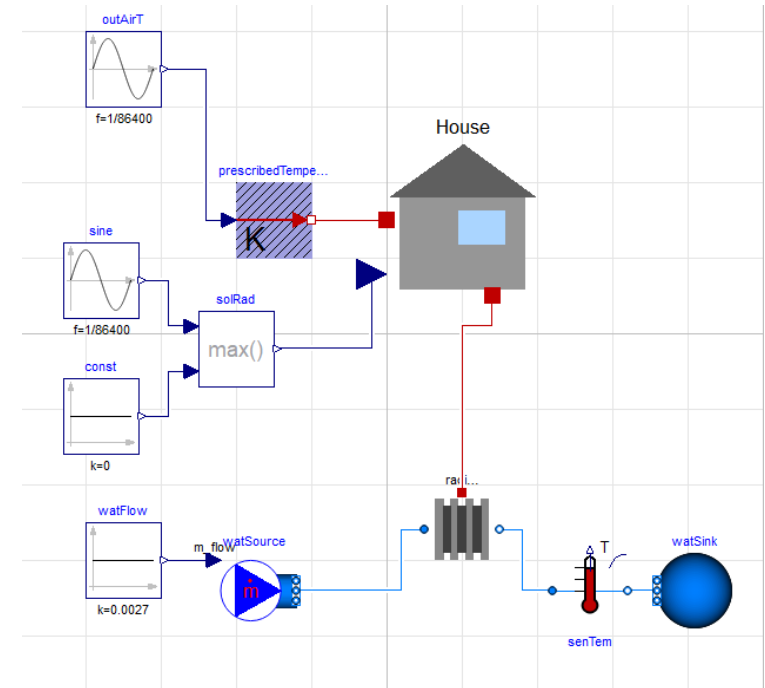

Figure 7.4: Connections in **Experiment3**
- SimpleHouse.Components.Radiator (1)
- Modelica.Blocks.Sources.Constant (1)
- Buildings.Fluid.Sources.MassFlowSource\_T (1)
- Buildings.Fluid.Sources.Boundary\_pT (1)
- Buildings.Fluid.Sensors.TemperatureTwoPorts (1)
4. Connect the components according to Fig. 7.4